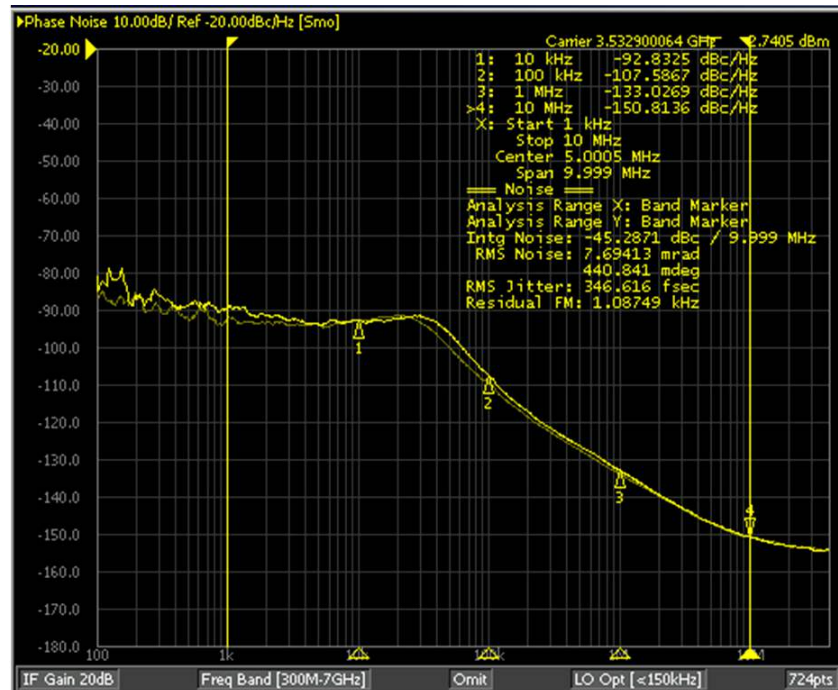

Figure 19. Fractional Phase Noise at 3532.9 MHz
7. TRF3722 phase noise at 3532.9-MHz frequency at LO_OUTP is shown in Figure 19.